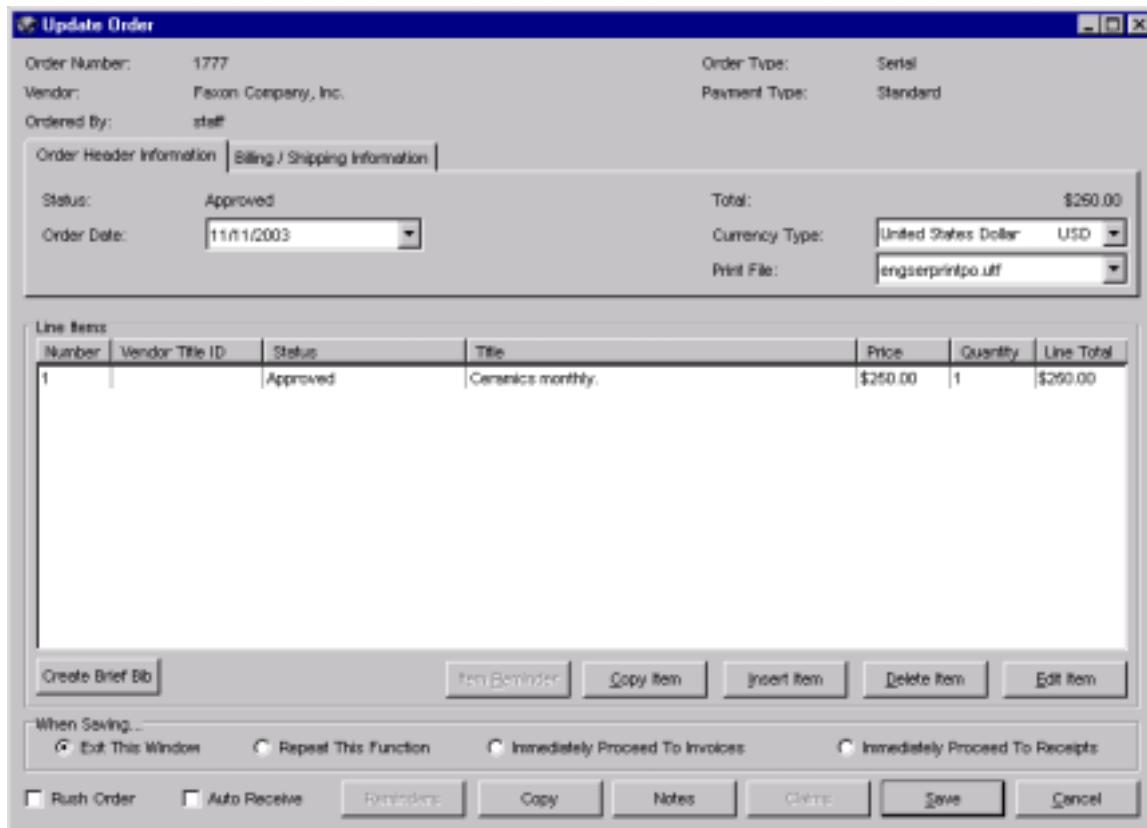

Figure 3-5. Update Order Window – Serial Order
Once a Monograph or Serial order has been saved, you can update it on the Update Order window (*Figure 3-5*).
1. On the Update Order window (*Figure 3-5*), highlight the line item you want to update, and then click the Edit Item button.